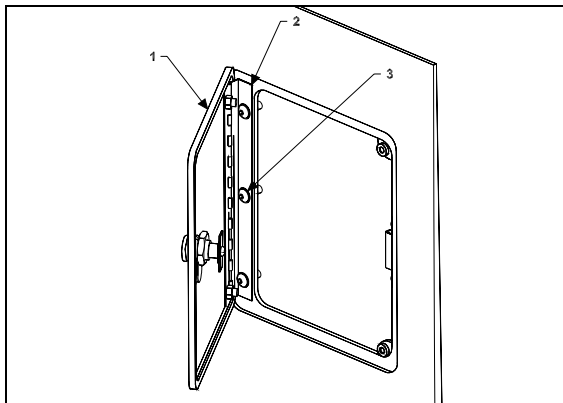

FIGURE 57: FUEL FILLER DOOR
1. Open the fuel filler door (1, Fig. 57).
2. Loosen the screws (3, Fig. 57) holding the panel to hinge (2, Fig. 57) assembly.